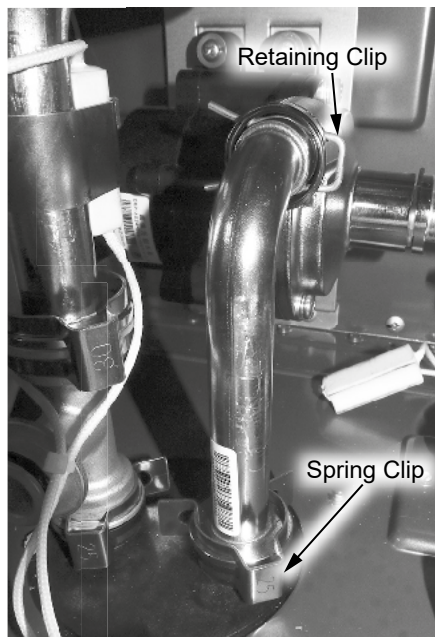

Figure 10 - Pump outlet tube location
- Locate the pump outlet tube. Remove the retaining clip securing tube to water pump. Locate and remove the spring clip (size 25) at the bottom of the pump outlet tube and disconnect tube from water connection and water pump. See Figure 10.